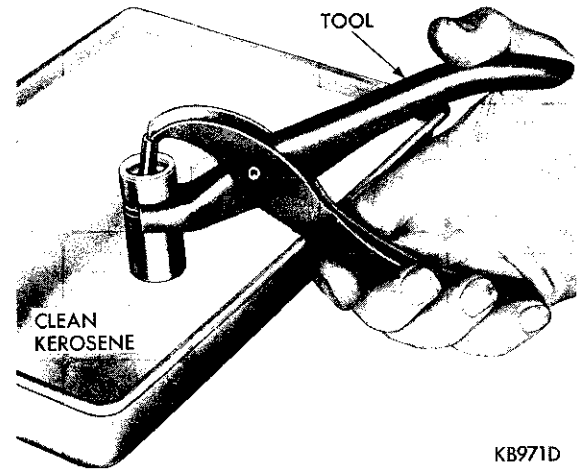

Fig. 18—Testing Tappet Using Tool C-3160
- (1) Fill a pan with clean kerosene.
- (2) Remove the cap from the plunger and completely submerge the tappet in an upright position.
- (3) Allow the tappet to fill with kerosene, remove the tappet, and replace the cap.
- (4) Hold the tappet in an upright position and insert the lower jaw of pliers, Tool C-3160, in the groove of the tappet body (Fig. 18).
- (5) Engage the jaw of the pliers with the top of the tappet plunger. Test leakdown by compressing the pliers. If the plunger collapses almost instantly as pressure is applied, disassemble the tappet, clean and test again (Fig. 18).
- (6) If the tappet still does not operate satisfactorily after cleaning, install a new tappet assembly.